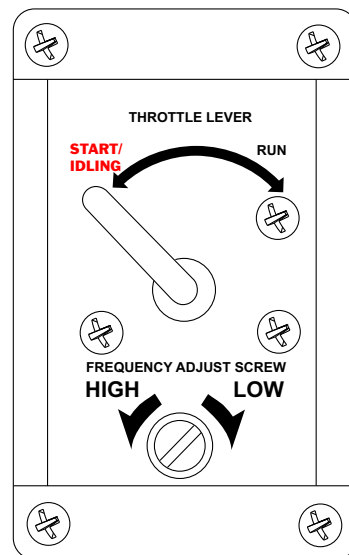

Figure 41. Throttle Lever (Start/Idling Position)
6. Place **throttle lever** (Figure 41) in the start idling position.